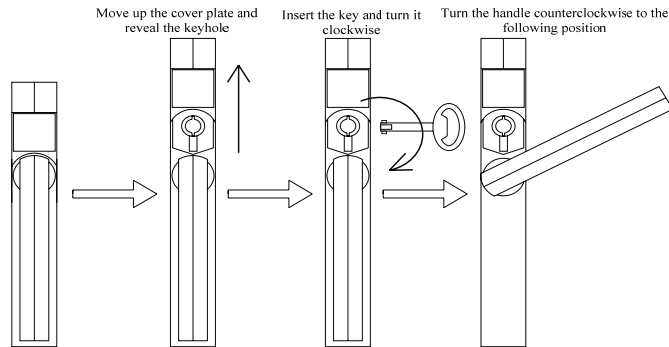

Fig. 8-4 Open the front door
1. Unlock the front door as shown in Fig. 8-4.